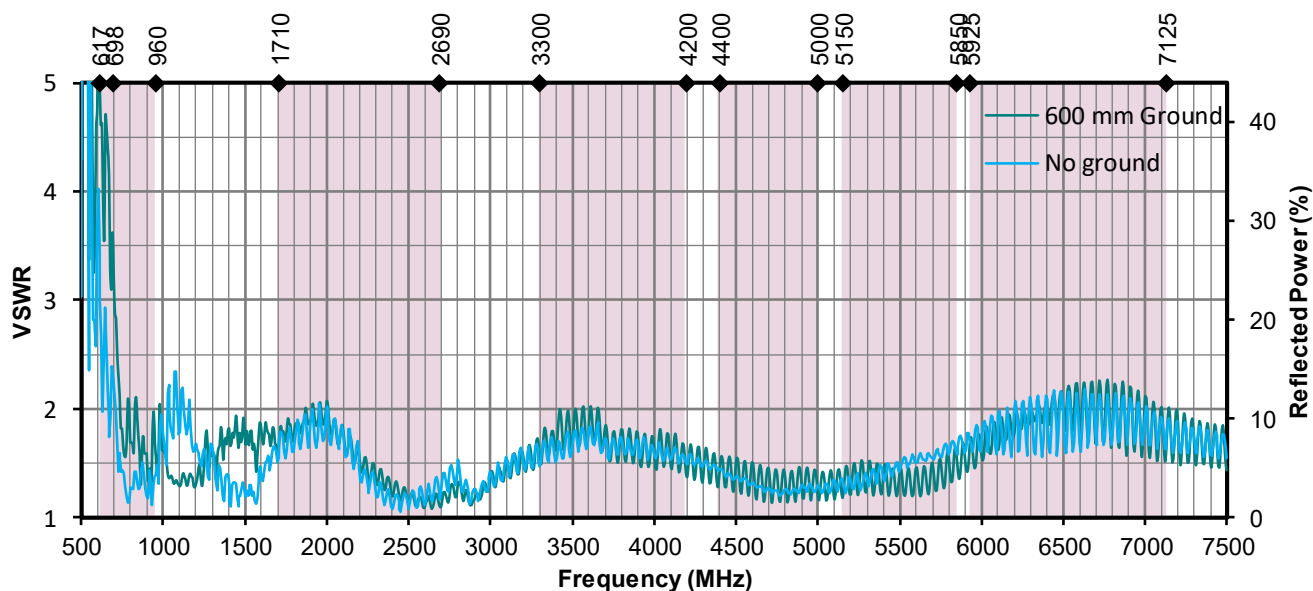

Figure 5. Antenna VSWR, 5G/LTE
**Figure 5** provides the voltage standing wave ratio (VSWR) across the antenna bandwidth. VSWR is a function of the reflection coefficient, which describes the power reflected from the antenna back to the radio. A lower VSWR value indicates better antenna performance at a given frequency. Reflected power is also shown on the right-side vertical axis as a gauge of the percentage of transmitter power reflected back from the antenna.